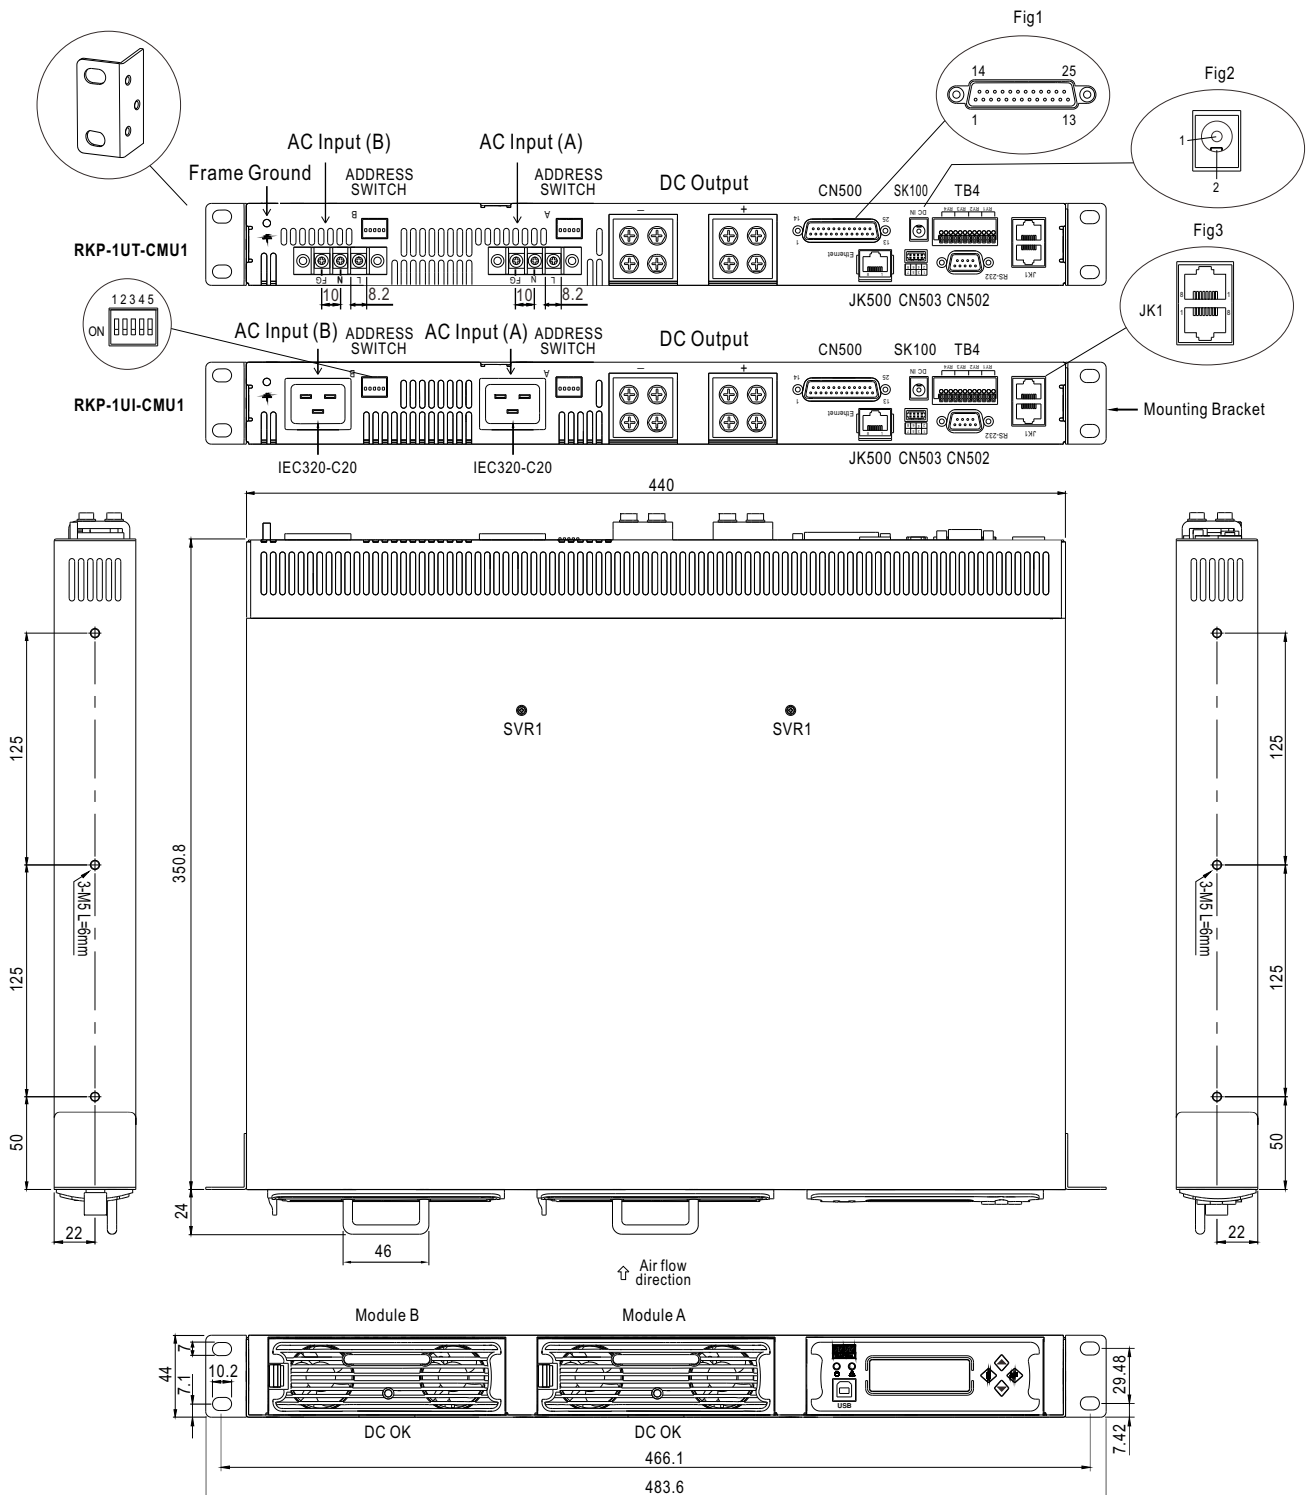

Figure 8-1 System assembly diagram of RCP series
- ⊙ Insert 1~2 units of RCP-2000 with the identical output voltage and current into the rack unit. Refer to Figure 8-1.